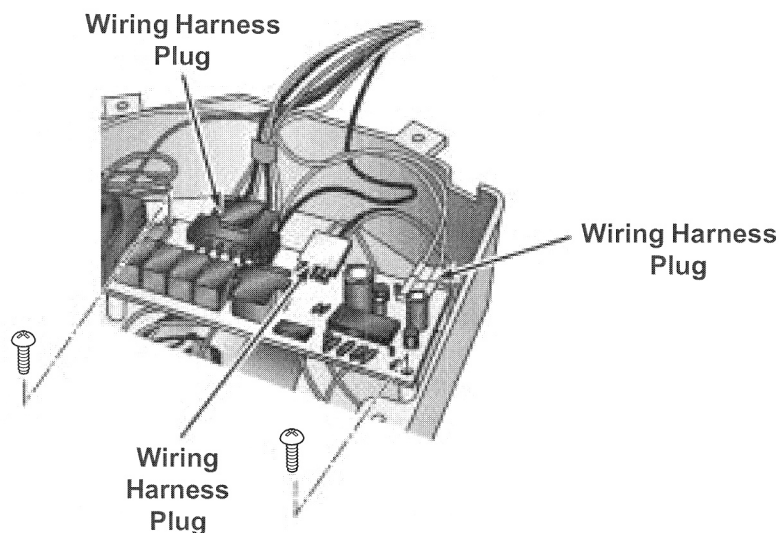

Fig. 3-9
1. With the control box in the service position, disconnect the three (3) wiring harness plugs from the connectors on the electronic control board. (Fig. 3-9)
2. Remove the two (2) Hex-head screws securing the electronic control board to the mounting stubs in the control box. (Fig. 3-9)